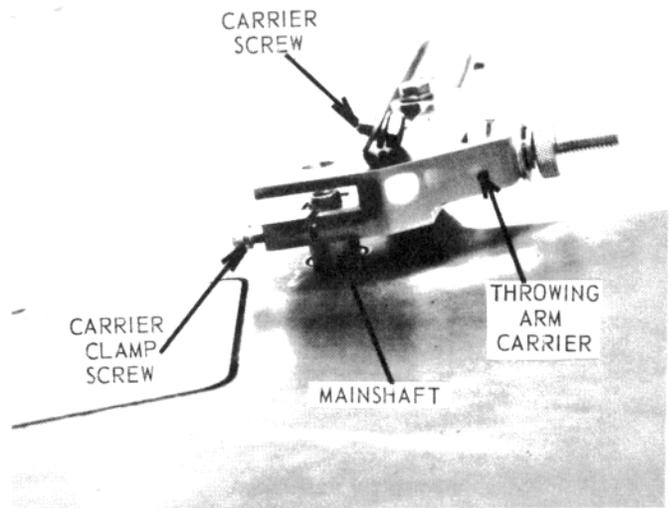

Figure 30 – Throwing Arm Assembly
- 1.2.5 Remove the throwing arm assembly by removing the carrier screw, loosening the carrier clamp screw, and lifting or prying the carrier off the shaft (see Figure 30).